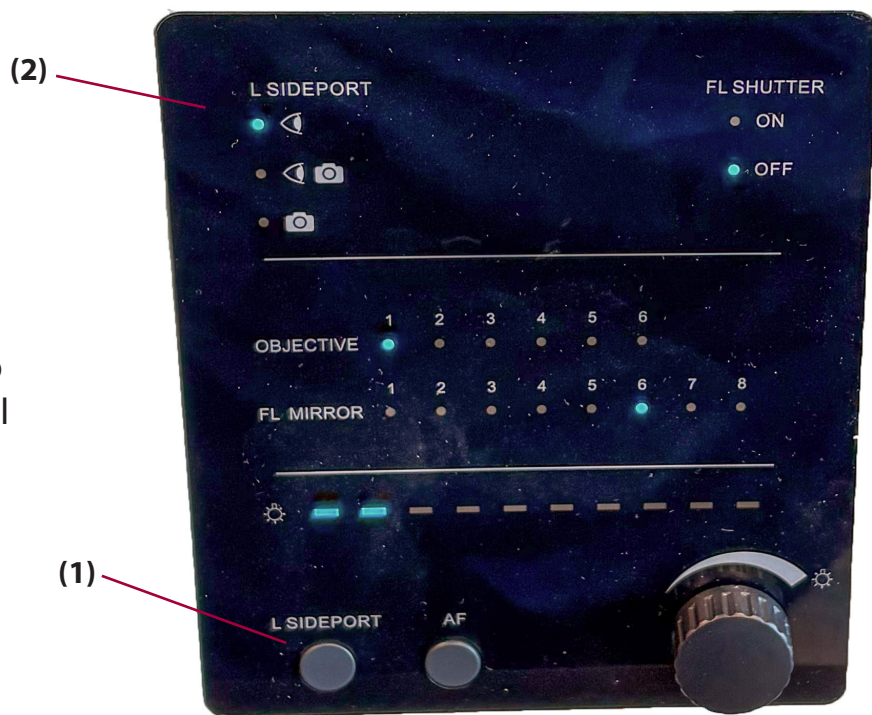

Figure 15
Refer to Figure 15. To direct light to the microscope eyepieces and / or the camera, toggle the button labeled "L sideport" (1) on the bottom left of the control panel. The light illuminated below the "L sideport" text (2) on the top left side of the control panel will indicate where the light is going. The light can either be directed entirely to the eyepieces, to the left eyetube and the camera, or entirely to the camera.